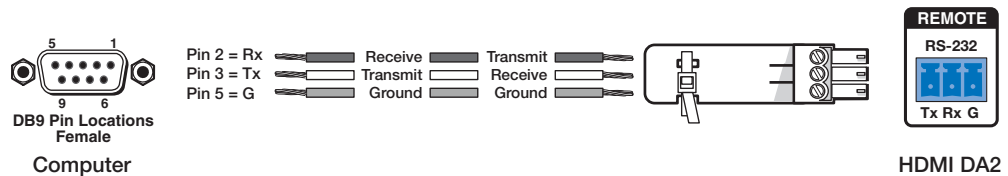

Figure 3. Wiring the HDMI DA4 and HDMI DA6 for RS-232 Control
1. Connect an RS-232 cable, such as Extron universal control cable (UC 50' or UC 100') to the computer, using a female 9-pin D connector (see figure 3):
2. Wire the opposite end of the cable to the provided 3-pole captive screw plug (see figure 3):